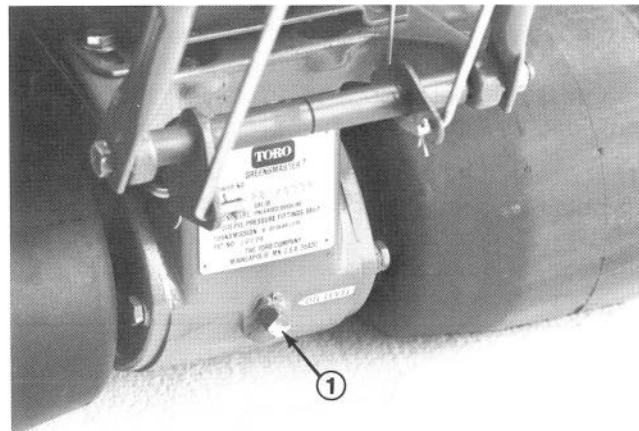

Figure 5
1. Place mower on level surface and remove pipe plug at rear of gear case. Oil should be to bottom of hole (Fig. 5).